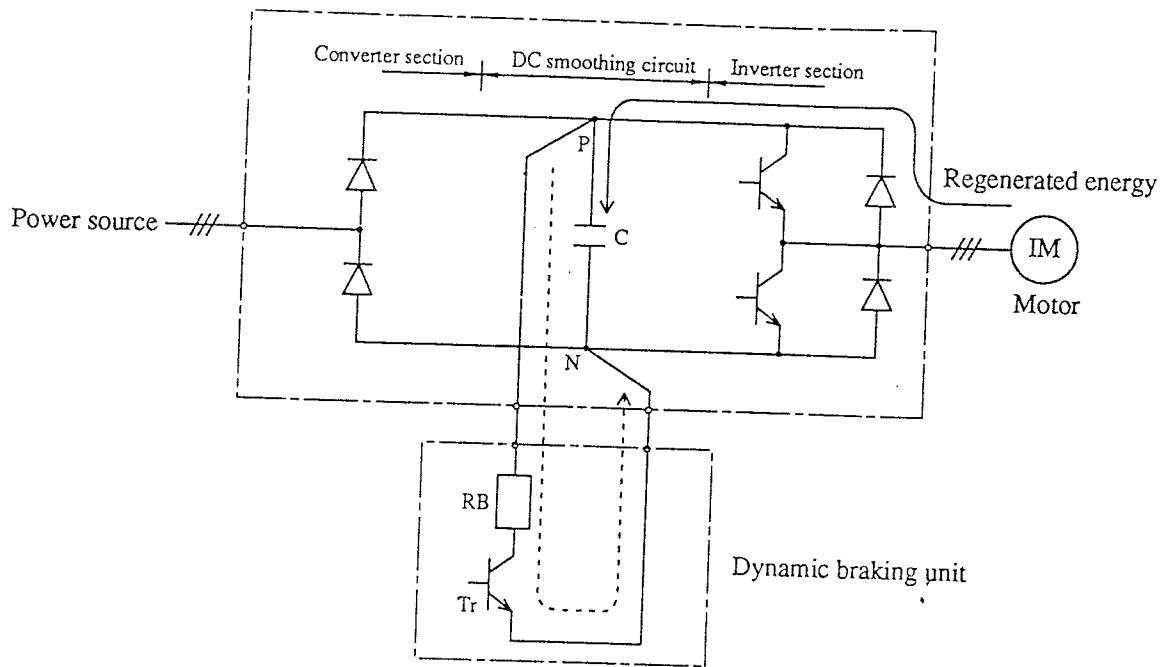

Fig. 8.3 Dynamic Braking by the Inverter
The motor performs dynamic running in this state and the rotational energy of the motor is switched to electric energy and regenerated in the inverter circuit. The status thereof is shown in Fig. 8.3.
When the DC circuit voltage reaches the specified value in Fig. 8.3, the transistor (Tr) is switched ON and the regenerative energy is consumed as heat by the resistor (RB). The braking torque in this state is determined by the V/f characteristic of the inverter, the allowable current of the dynamic braking unit (determined by the resistor RB), and the RB capacitor as the generated torque of the motor relates to the current flowing through the transistor (Tr) and resistor (RB).